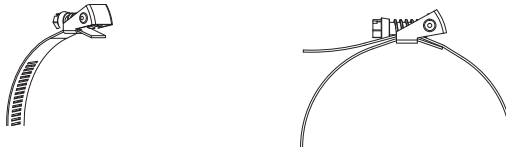

Fig. 9.5: Quick release clasp
- Insert the tension strap into the clasp (see Fig. 9.5).